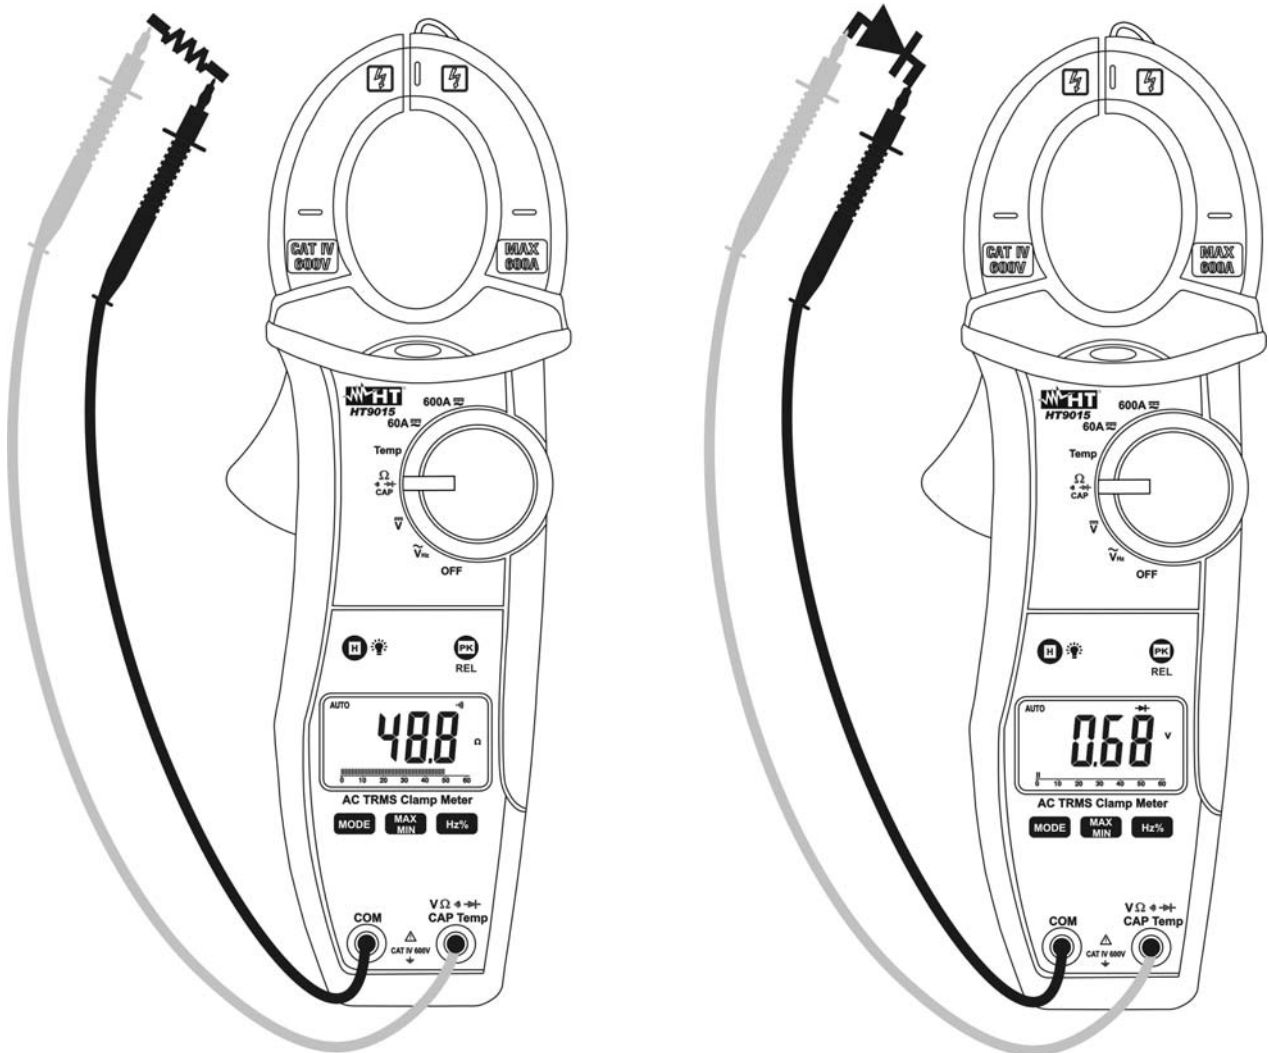

Fig. 6: Taking Continuity test and Diode test
3. Insert the red test lead plug into **V $\Omega \rightarrow \text{CAP}$ Hz % Temp** jack and the black test lead plug into **COM** jack and perform continuity test on the object under test (see Fig. 6 – left side). Buzzer emits sound if the measured resistance value is less about 60 Ω
5. Connect the red test leads to the anode of diode on test and the black test lead on the cathode ones (see Fig. 6 – right side). Reverse position of test leads to reading reverse polarization voltage